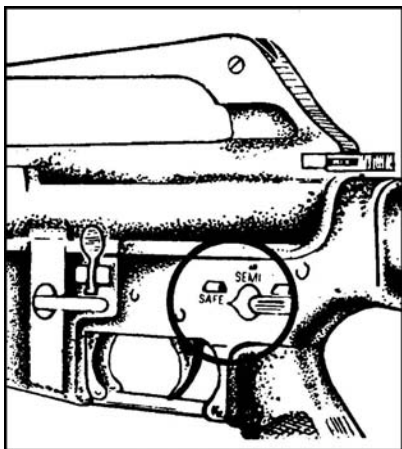

Figure 071-311-2025-1. Selector lever on SAFE
- a. Attempt to place the selector lever on SAFE. If the weapon is not cocked, the lever cannot be placed on SAFE (figure 071-311-2025-1).